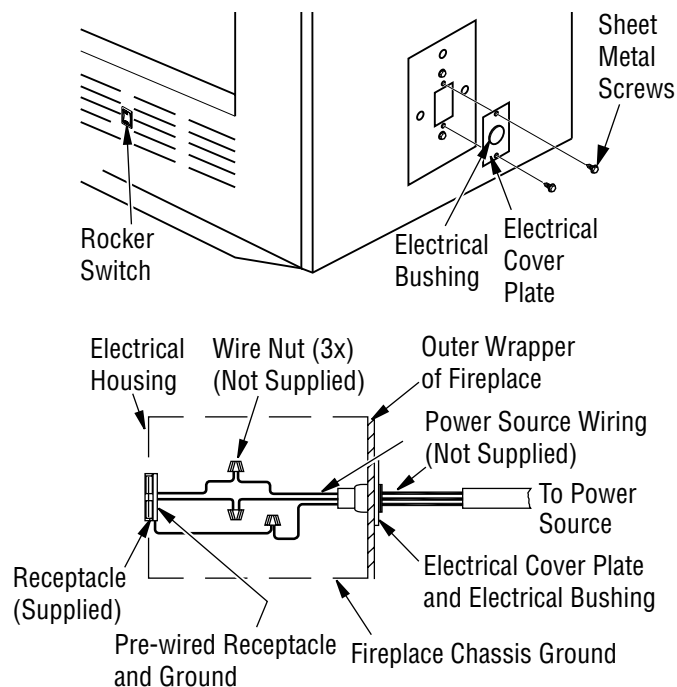

Figure 6 - Fan Switch-Electrical Bushing
Fan or blower kit is optional with this fireplace (for circulating models only). Use of blowers or fans other than those manufactured by IHP voids warranty. Fan is operated by pressing rocker switch (see Figure 6) in lower right hand corner of fireplace face. Blower is operated by turning control knob (not shown).
Fan/blower kit electrical connections are made through electrical cover plate on side of fireplace as shown in Figure 6.
1. Remove electrical cover plate with bushing from fireplace by removing 2 sheet metal screws as shown in Figure 6.
3. Slide all wiring connections in electrical housing as shown in Figure 6.